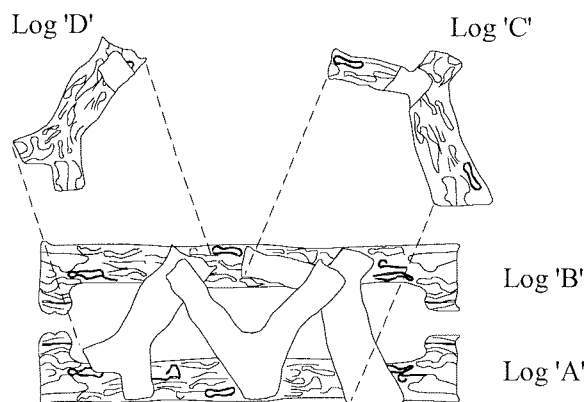
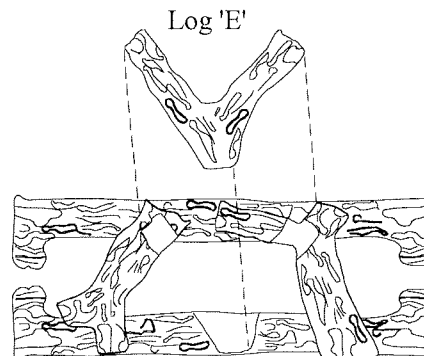

Figure 7a. Log Installation.
Figure 7b. Completed Installation.
The M38BV-PFC is supplied with five (5) fibre logs. The two large bottom logs (logs "A" and "B") are mounted on the burner grate by placing them into their slots. Place logs "C" and "D" into their mating positions on the large logs as shown in Figure 7a below. Log "E" is mounted on top of logs "C" and "D" as shown in Figure 7b.